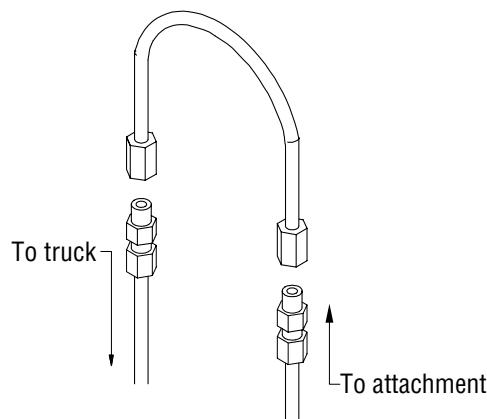

Figure 3-1, Jumper Line
2. Purging can be accomplished by installing a jumper line and operating each hydraulic function (clamp, rotate and side shift if equipped) in each direction for a minimum of 30 seconds. (Figure 3-1)